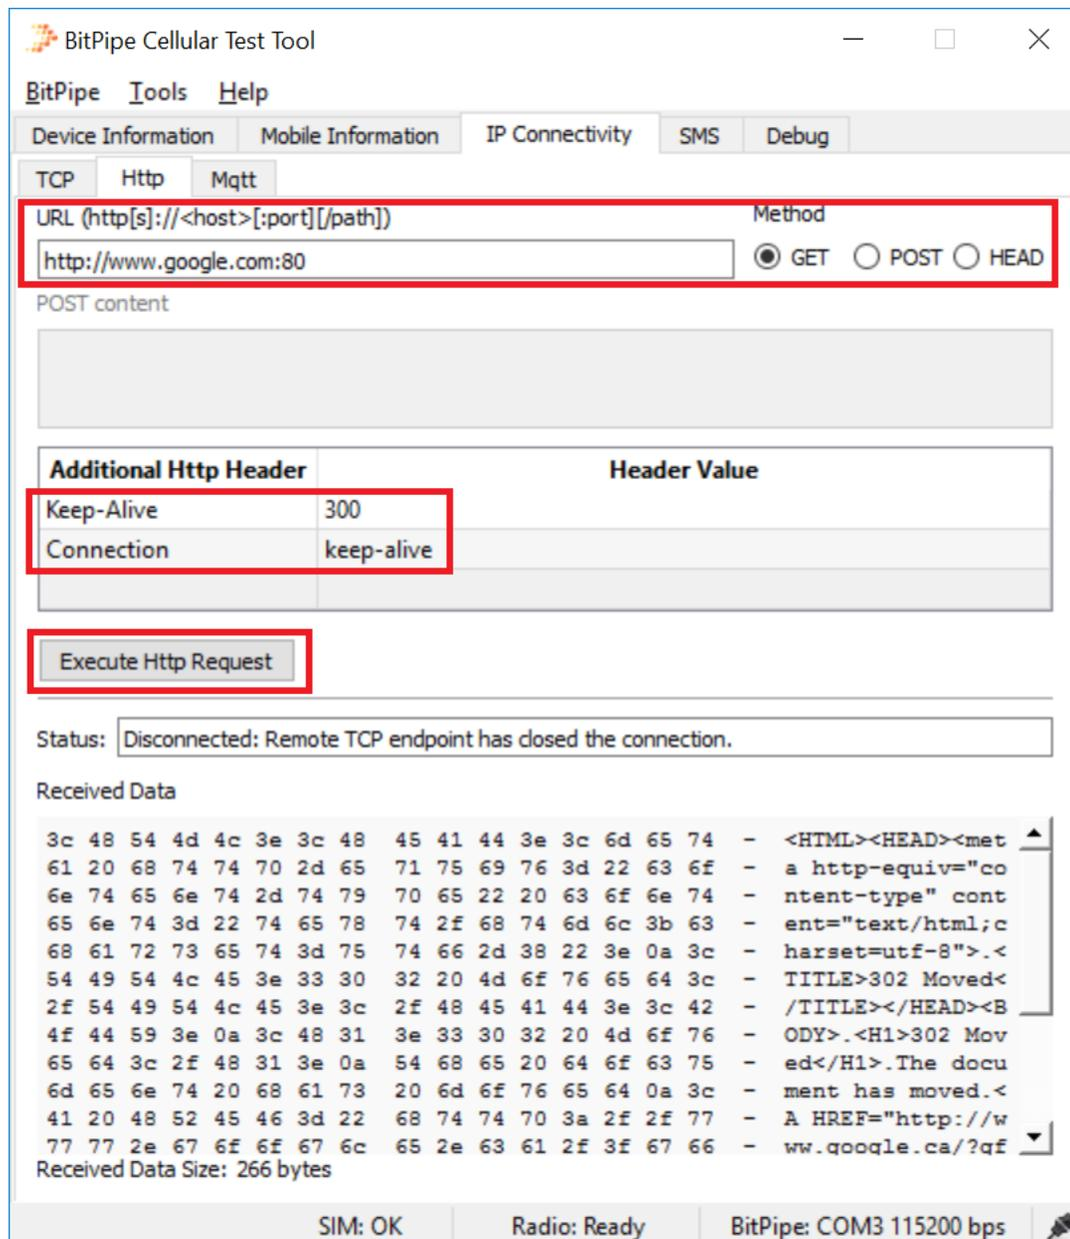

Figure 20 HTTP GET example
1. Select the “IP Connectivity” tab and then, select the “Http” tab (see Figure 20).
4. Optionally, a custom HTTP header can be sent with the GET request to the server. The custom header information can be entered by specifying the header in the “Additional Http Header” column and its value in the “Header Value” column. Figure 20 shows HTTP example headers.
7. The response content will be displayed in the “Received Data” section containing both hex values and ASCII characters (see Figure 20).